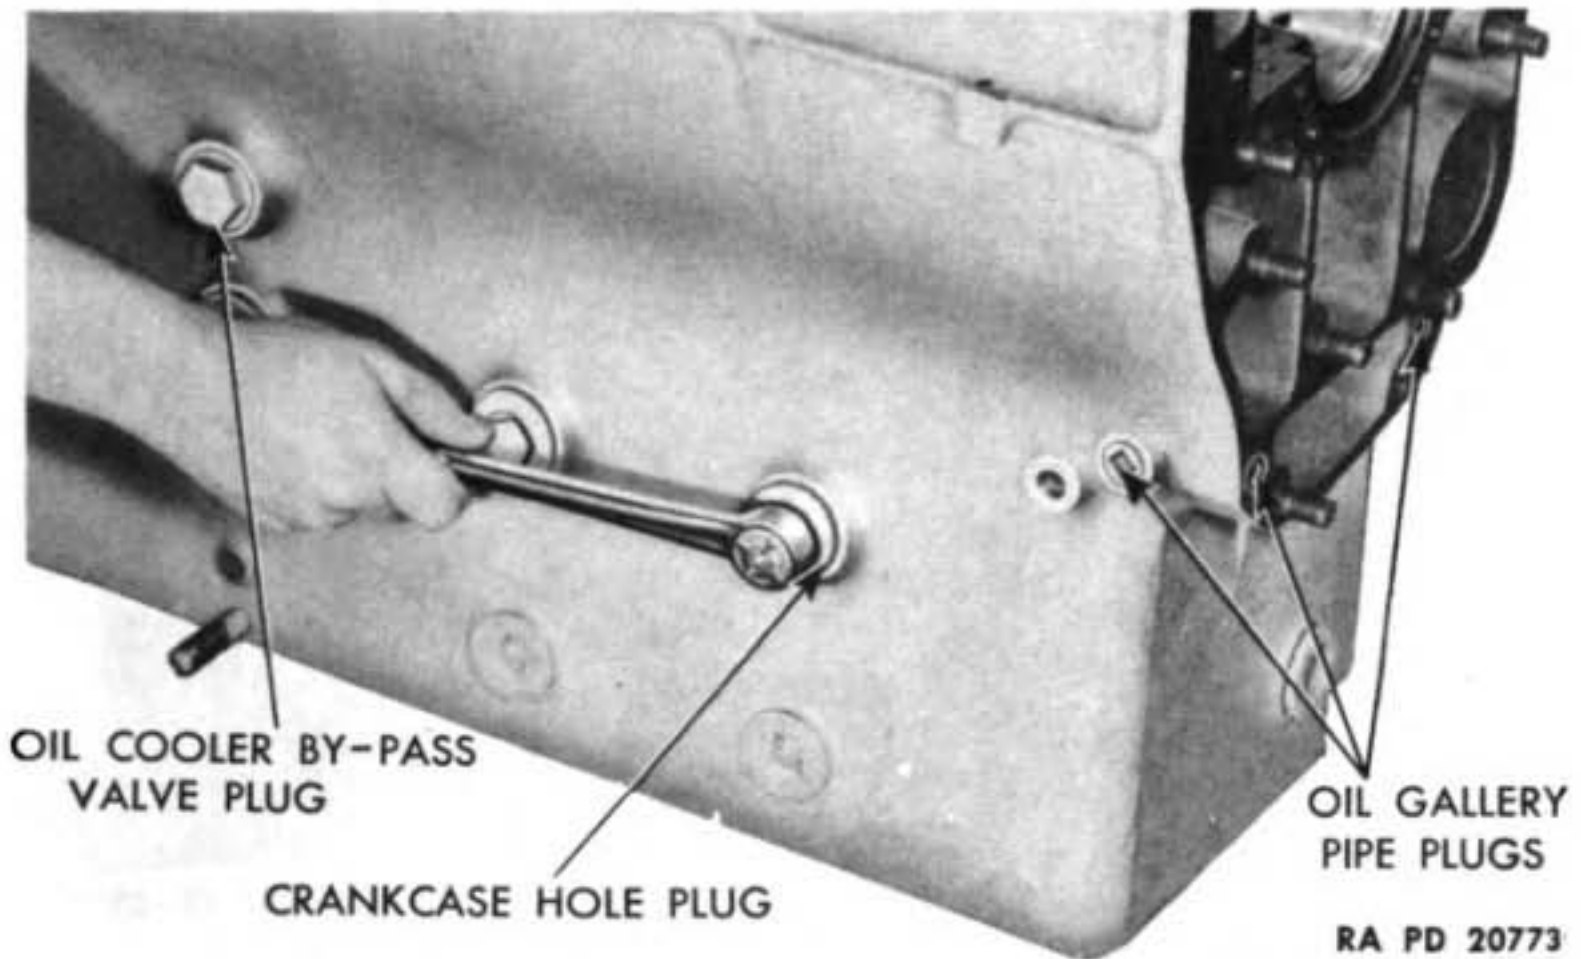

Figure 41 — Removing Crankcase Core Hole Plugs
a. Clean. Strip off gaskets and sealing compound from all surfaces. Remove pipe plugs from oil gallery at both ends of crankcase, and remove 10 crankcase core hole plugs (fig. 41). Clean inside and outside of crankcase with dry-cleaning solvent or with steam. **CAUTION:** *Be sure to clean oil gallery and water jacket.* Blow out oil gallery and water jacket with compressed air. Replace oil gallery pipe plugs, using joint and thread compound. Replace 10 crankcase core hole plugs, using new copper asbestos gaskets.
(1) **CAMSHAFT BEARINGS.** Measure each of the five camshaft bearings. The inside diameter of new bearings is 2.1240 to 2.1245 inches. If bearings are worn, replace as described in subparagraph c (1) below.
(2) **CRANKCASE.** Inspect all surfaces of crankcase for cracks, paying particular attention to top surface of cylinder around the bores. Inspect all studs, and replace those that are broken or bent, or that have stripped threads. Check condition of cylinder head dowel pins and front end plate dowel pins. Inspect all milled surfaces, and if nicked or burred, smooth down with a fine file. Measure cylinder bores. New bores measure 4.749 to 4.751 inches. Taper of 0.001 inch and out-of-round of 0.001 inch is permissible. Measure the bores to determine taper and out-of-round caused by wear. Measure the bores approximately 1 inch below top surface of crankcase, and also near bottom of bore. Inspect bores for scores. If bores are worn or scored, refer to subparagraph c (2) below for refinishing.